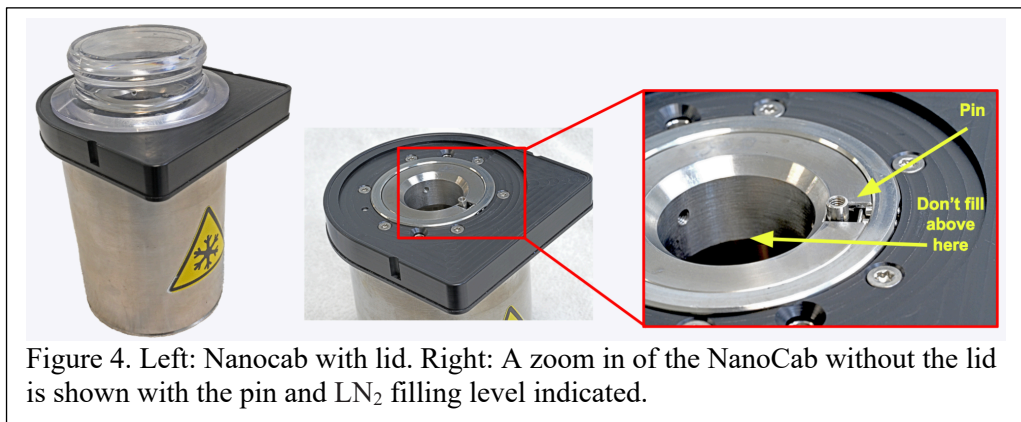

Figure 4. Left: Nanocab with lid. Right: A zoom in of the NanoCab without the lid is shown with the pin and LN₂ filling level indicated.
- 4.2.1. Retrieve the dry NanoCab, with lid, for the microscope you'd like to load (fig 4).
- 4.2.2.2. Be mindful not to overfill above the bottom of silver ring (fig 4).
4.2.4. Verify the cassette lock pin (fig 4) is not stuck by pulling upward on the pin (it is spring loaded).
4.3.4. If docking button is not available, remove the NanoCab and check cassette lock pin (fig 4).
- 4.8.4. If docking button is not available, remove the NanoCab and check cassette lock pin (fig 4). If there is an error (cassette is not docked or undocked) often the pin needs adjustment. Notify staff and use a different NanoCab should solve the issue while the defective one is warmed up.